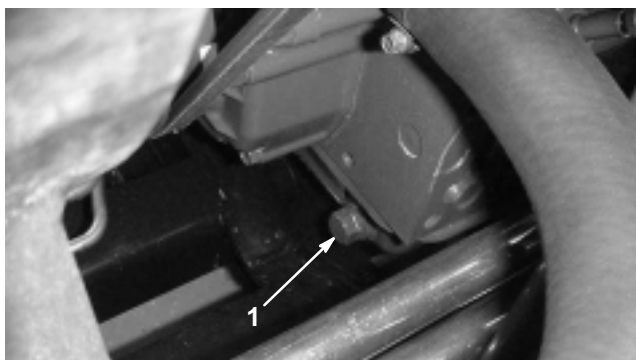

Figure 27
1. Remove the rear drain plug (Fig. 27) and let the oil flow into a drain pan. When the oil stops, install the drain plug.